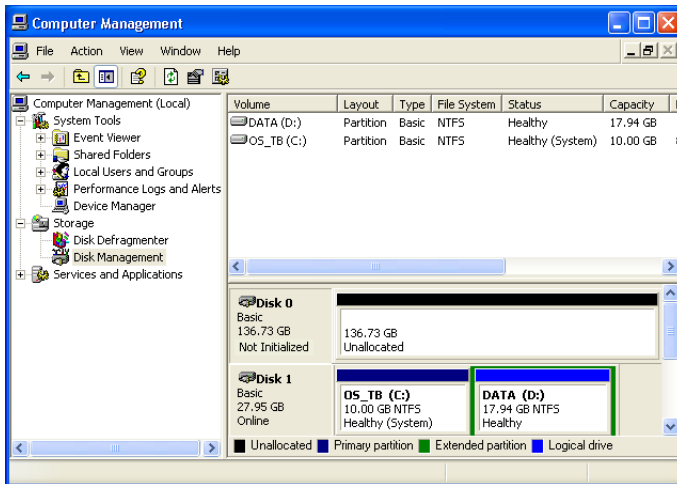

Figure 21: Computer Management dialog box
1. Click *Disk Management* in the tree view of the *Computer Management* dialog box (see figure 21). The *Initialize and Convert Disk Wizard* opens.